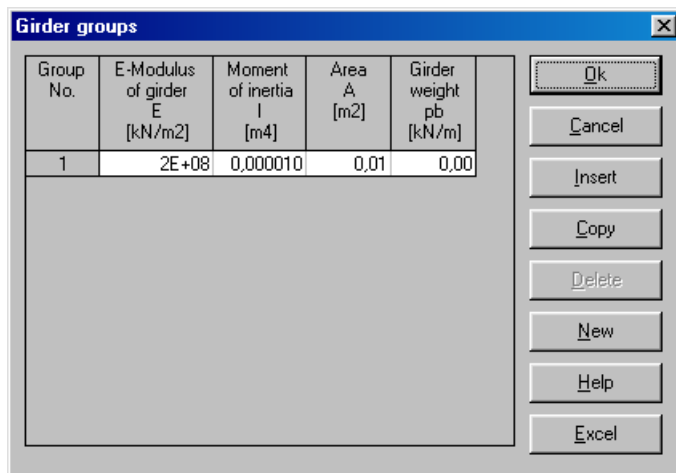

Figure 6-13 "Defining girder groups" list box
After clicking "OK" button in the "Cross section definition" option box, the following list box in Figure 6-13 appears.
- Enter the material properties of the girder, cross section dimensions and the girder weight as indicated in Figure 6-13. This is done by entering the value in the corresponding cell and press "Enter" button